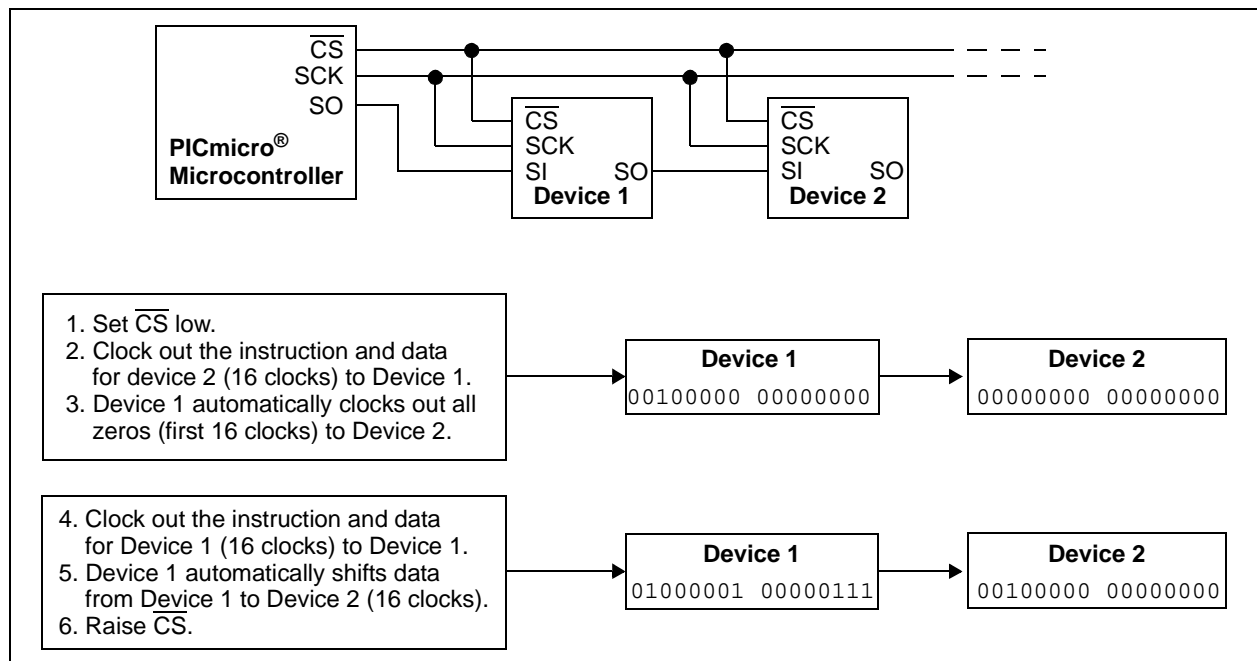
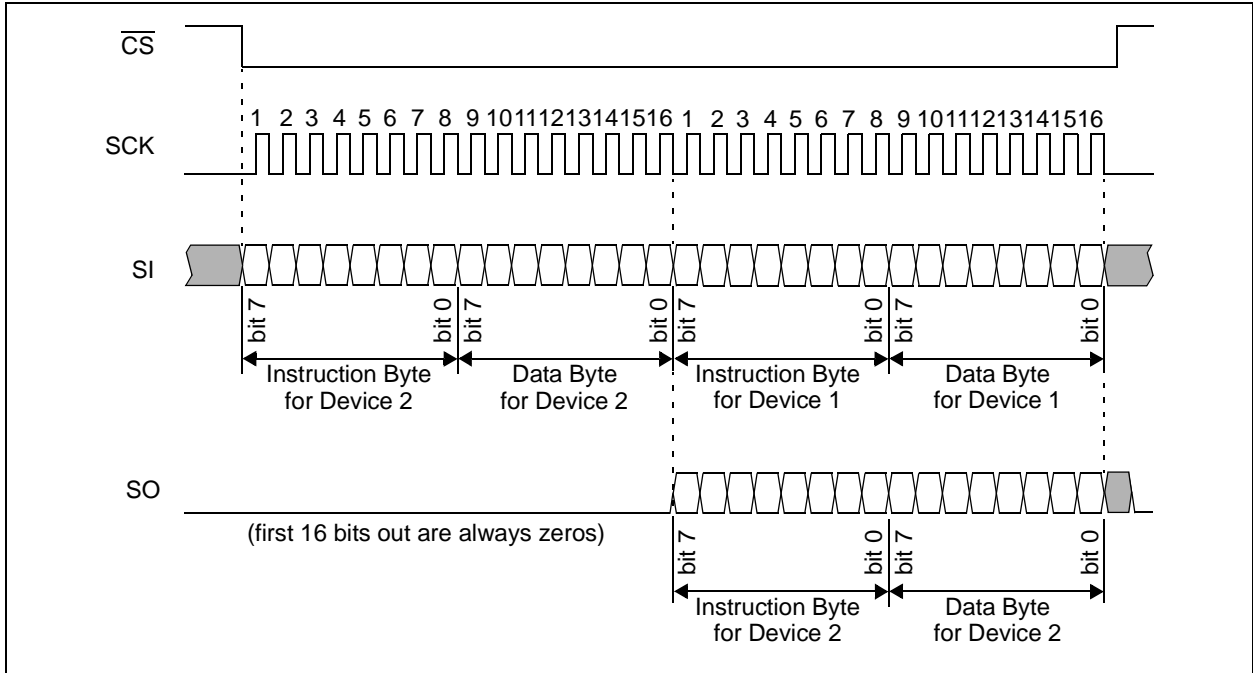
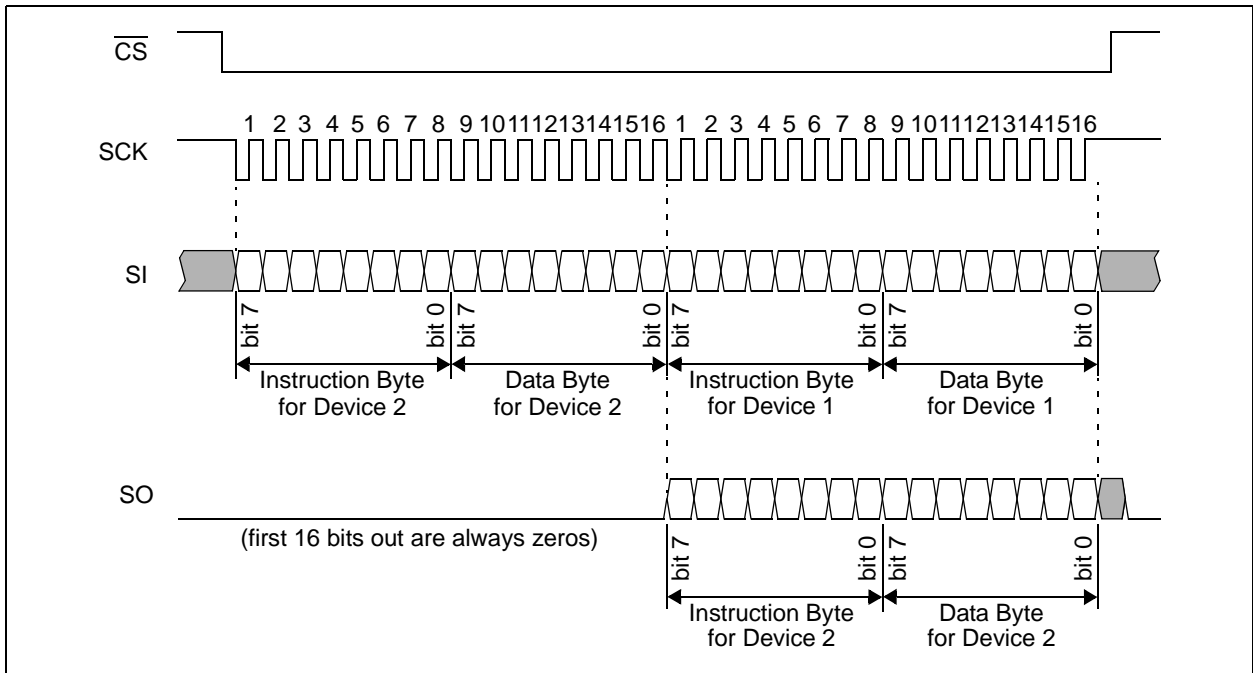

FIGURE 5-3: Daisy-Chain Configuration.
FIGURE 5-4: Serial Bus Sequence for Daisy-Chain Configuration; SPI™ 0,0 Mode.
FIGURE 5-5: Serial Bus Sequence for Daisy-Chain Configuration; SPI™ 1,1 Mode.
Multiple MCP6S91/2/3 devices can be connected in a daisy-chain configuration by connecting the SO pin from one device to the SI pin on the next device and using common SCK and \overline{CS} lines (Figure 5-3). This approach reduces PCB layout complexity and uses fewer PICmicro[®] microcontroller I/O pins.
The example in Figure 5-3 shows a daisy-chain configuration with two devices, although any number of devices can be configured this way. The MCP6S91 and MCP6S92 can only be used at the far end of the daisy-chain, because they do not have a serial data out (SO) pin. As shown in Figure 5-4 and Figure 5-5, both SI and SO data are sent in 16-bit (2 byte) words. These devices abort any command that is not a multiple of 16 bits.